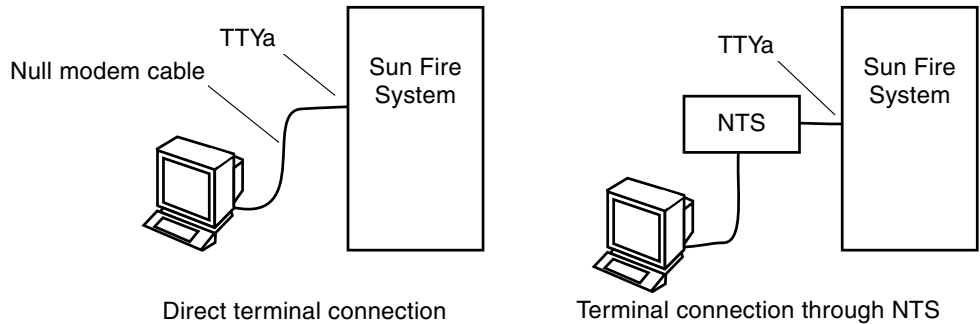

FIGURE 4-3 Serial Cable Connections
2. Connect the other end of the serial cable to the chosen ASCII terminal or NTS server (FIGURE 4-3).